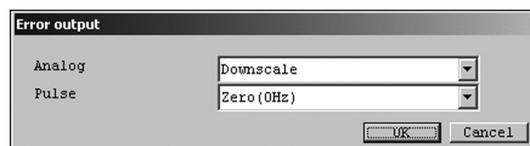

Fig.42
- ① Click the "Setup (S)" menu, and then select and click "Error output" from the "Outputs" drop-down list.
② The following window will be displayed (Fig. 42). Set the analog and pulse output level for when errors occur here.